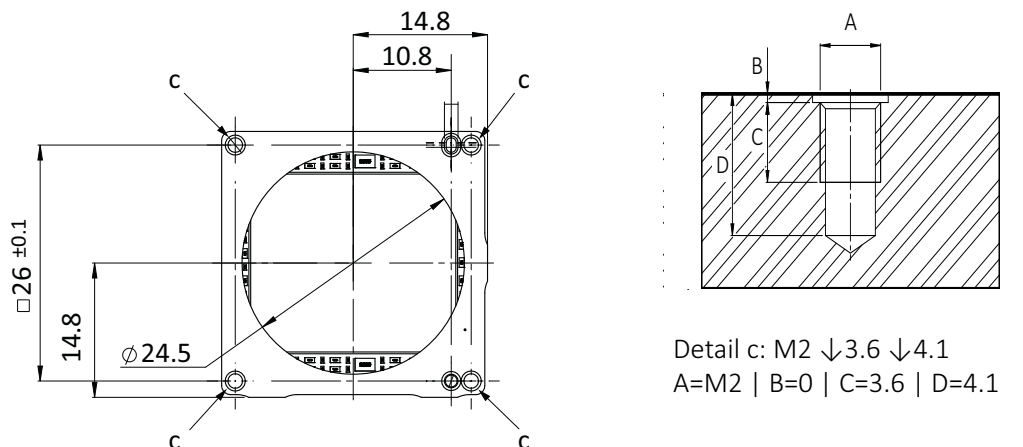

Figure 65: Mounting threads Alvium G1 BL Frame
As shown in Figure 65, mount the camera to the base using suitable M2 screws for the 4 mounting threads: At 0.4 Nm maximum torque for a thread engagement (C) of 3.6 mm between screws and mounting threads.